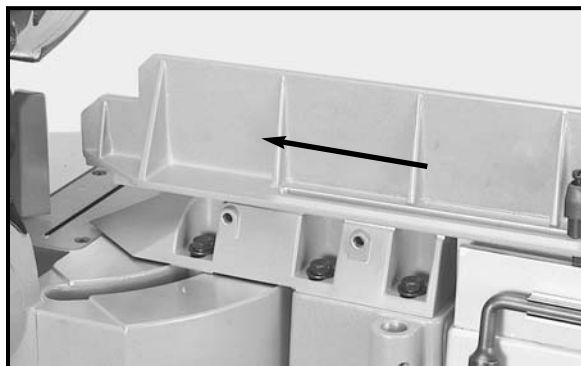
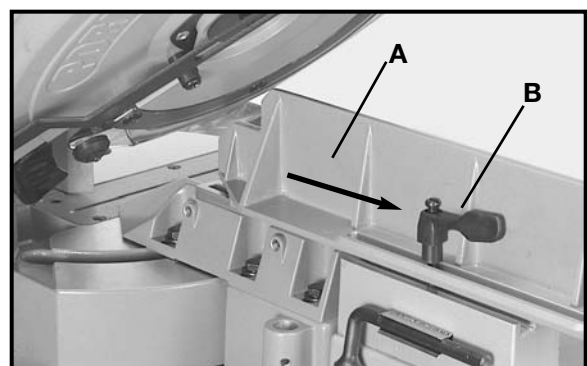

Fig. 20
Fig. 21
The high sliding fence Fig. 20, provides support for extra large workpieces used with your saw and should always be set as close as possible to the saw blade. When miter cutting (blade set 90 degrees to the table and at an angle to the right or left), the fence should be set all the way toward the blade, (Fig. 20). When bevel cutting, however (blade tilted at an angle to the table), the fence (A) Fig. 21, should be moved away from the blade to allow for proper clearance for the saw blade and guard, (Fig. 21). To accomplish this movement, loosen the lock handle (B), and slide the fence (A) to the desired location. Tighten the lock handle (B).
**NOTE:** Lock handle (B) is spring-loaded and can be repositioned. Pull up on handle to reposition it on the serrated nut located underneath handle.